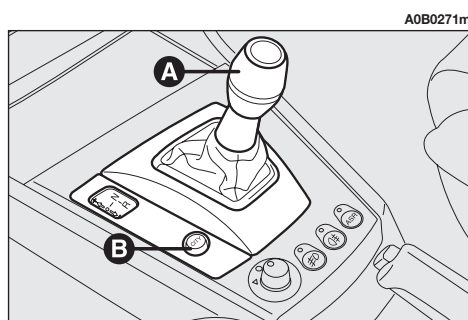
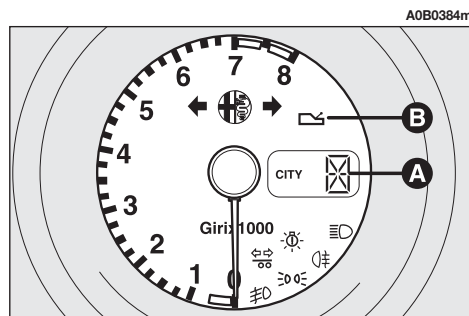

fig. 124
fig. 126
Gearshifting takes place through a floating control lever (**A-fig. 124**) with only one stable central position. Using this lever it is possible to request increase/decrease of the ratio of the gear engaged and/or engagement of reverse gear (**R**) or neutral (**N**).
– the second is automatic, called **CITY** (mode selectable with the specific button **B-fig. 124**, the **CITY** sign appears on the display **fig. 126** fitted on rev-counter), in which the system decides directly when to shift gear.
The gear engaged (**fig. 126**) is always signalled on the display regardless of the selected mode.
Failures of Selespeed gearbox are signalled to the driver through a warning light (**B-fig. 126**) accompanied by an acoustic signal.
Turning the ignition key to **MAR**, all the segments of the display (**A-fig. 126**), the gearbox failure warning light (**B-fig. 126**) and the word **CITY** light up. After about one second, the display indicates the gear engaged (**N, 1, 2, 3, 4, 5, R**); from this moment, the Selespeed system accepts gearshift commands.